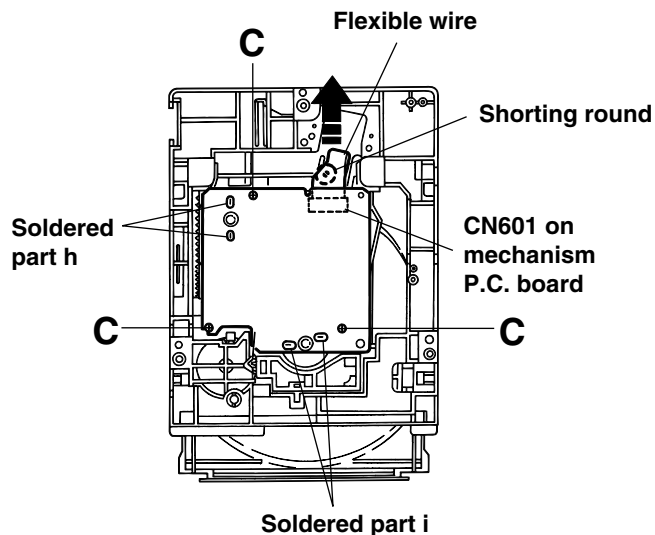

Fig. 10
■ Removing the Mechanism P.C. Board (Refer to Fig 10.)